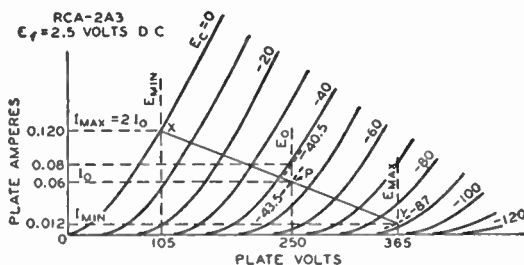

Fig. 21
Calculation of the **power output of a triode** used as a class A amplifier with either an output transformer or a choke having low dc resistance can be made without serious error from the plate family of curves by assuming a resistance load. The proper plate current, grid bias, optimum load resistance, and per-cent second-harmonic distortion can also be determined. The calculations are made graphically and are illustrated in Fig. 21 for given conditions. The procedure is as follows: (1) Locate the zero-signal bias point P by determining the zero-signal bias E_c from the formula:
Example: Determine the load resistance, power output, and distortion of a triode having an amplification factor of 4.2, a plate-dissipation rating of 15 watts, and plate characteristics curves as shown in Fig. 21. The tube is to be operated at 250 volts on the plate.